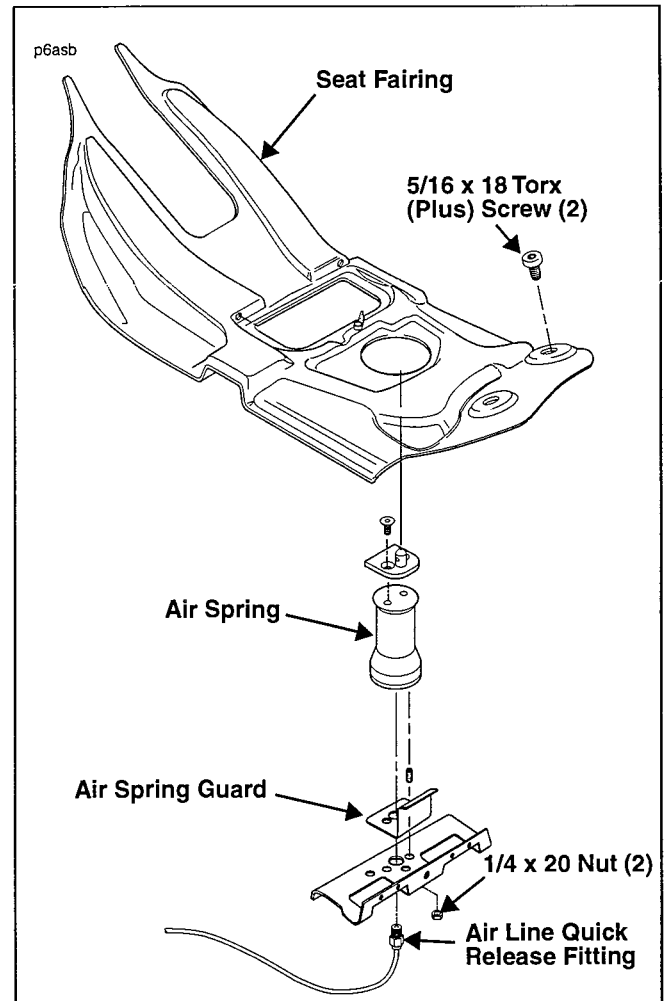

Figure 1. Air Spring Guard Location
2. See Figure 1. Remove two seat fairing 5/16 x 18 TORX (plus) mounting screws and seat fairing.